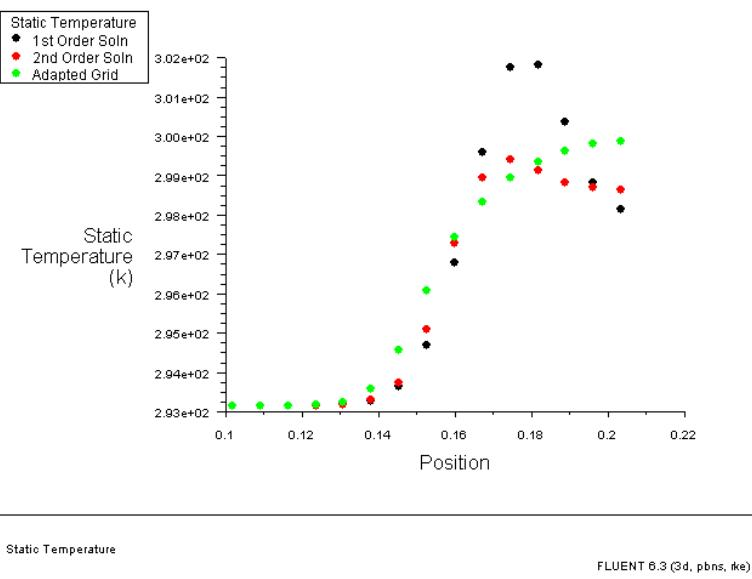

Figure 1.22: Outlet Temperature Profiles for the Three Solutions
7. Display the outlet temperature profiles for each of the three solutions on a single plot (Figure 1.22).
*Figure 1.22 shows the three temperature profiles at the centerline of the outlet. It is apparent by comparing both the shape of the profiles and the predicted outer wall temperature that the solution is highly dependent on the mesh and solution options. Specifically, further mesh adaption should be used in order to obtain a solution that is independent of the mesh.*